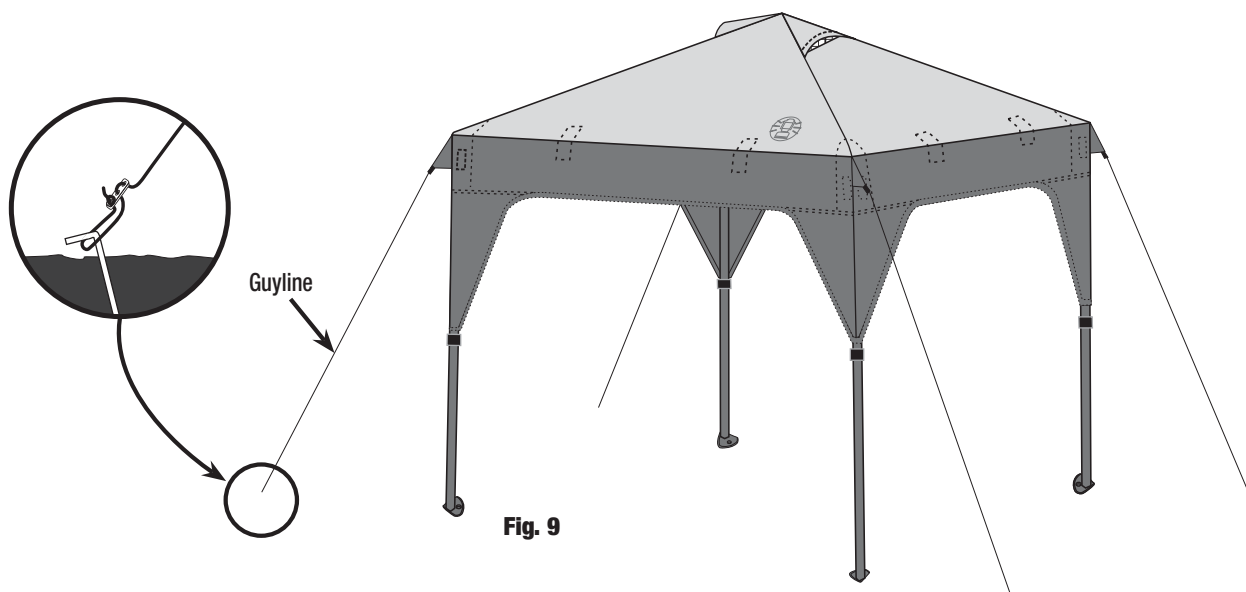

Fig. 9
- Attach and stake out guylines. (Fig. 9)